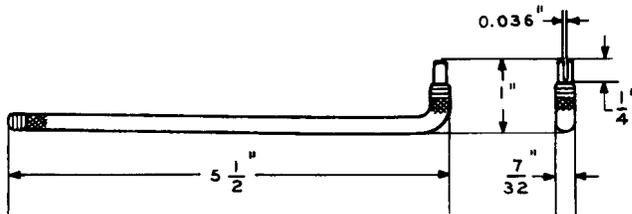

Fig. 9—412A Adjuster Tool
2.09 **412A:** The 412A tool (Fig. 9) is a spring adjuster for use on 202-, 211-, and 212-type switches and 229-, 230-, and 232-type relays.